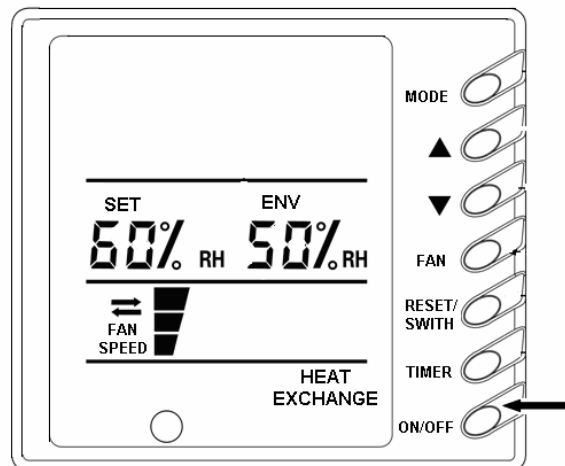

Fig.2
1. Press ON/OFF button to start the unit. (Fig.2)
Press FAN and ▲ at the same time for 5s to switch among half-half air exchange, discharge and supply. Refer to Fig.2 for details. The fan mode is selected by the users. E.g. plus pressure is needed in the room, fan mode can be adopted and if negative pressure is needed, air discharge mode can be adopted. Half-half air exchange is for normal station.
Press FAN and ▼ at the same time for 5s to switch between energy saving on/off. If under energy saving on state, Energy Saving will be displayed. Refer to Fig.2 for details. If the unit needn't operate for a long time, energy saving mode can be adopted to meet the demands of both function of fresh air exchange and quality of indoor air by users.